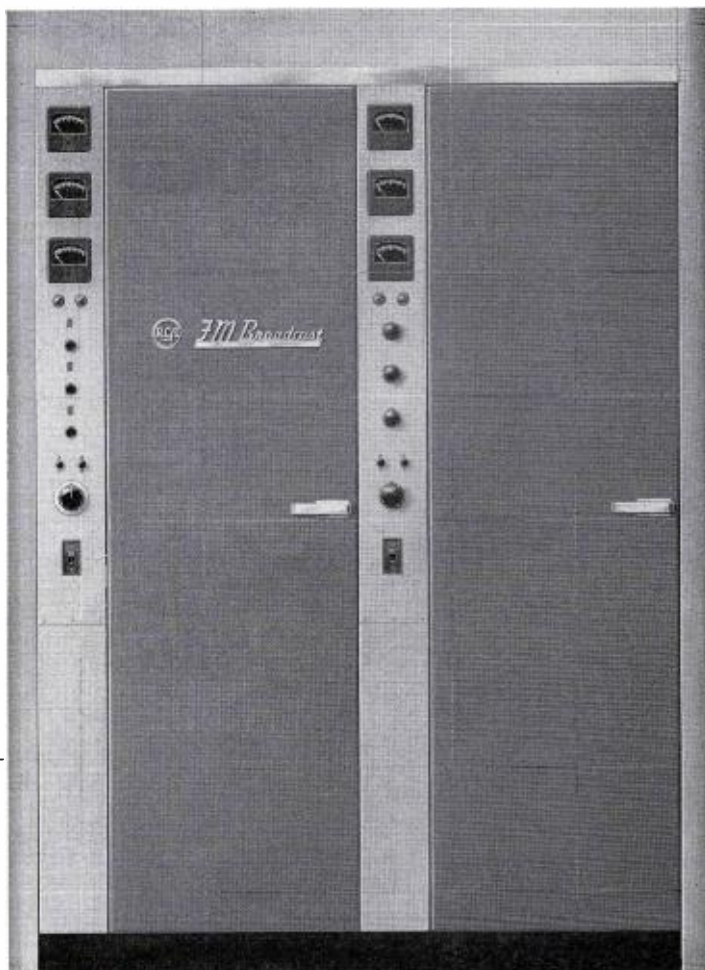

FIG. 1. Two compact cabinets house the 10 KW BTF-10C. Operating controls and meters are mounted on the front panels.
FIG. 1. The all transistor BA-34A Monitor Amplifier is easy to service and it features plug-in construction. The output transistors are mounted on circuit boards at the rear of the chassis.
Controls and meters are mounted on the vertical panel on the right side of the cabinet. Amplifier tuning controls, a multimeter, and the exciter controls are accessible through a non-interlocked front door (see Fig. 1). The exciter is mounted so it may be tilted out giving complete accessibility to all components (see Fig. 2). All other transmitter components are accessible from the back through an interlocked door.
FIG. 1. A single cabinet houses the complete BTF-1D Transmitter. The 1 KW PA stage is mounted near the top of the cabinet with the BTE-10B Driver/Exciter below. Meters and operating controls are mounted on the right end panel.
FIG. 1. This is the BTX-1A Subcarrier Generator. The receiver antenna lead is inserted between V-303 and its shield. The crystal Y-301 is removed. After calibrating the receiver the audio is applied through the input jack on the rear of the chassis.
1. Place the communications receiver next to the BTX-1A Subcarrier Generator, and run a shielded lead from the receiver antenna terminal to a position between tube V-303 and its shield (Fig. 1).